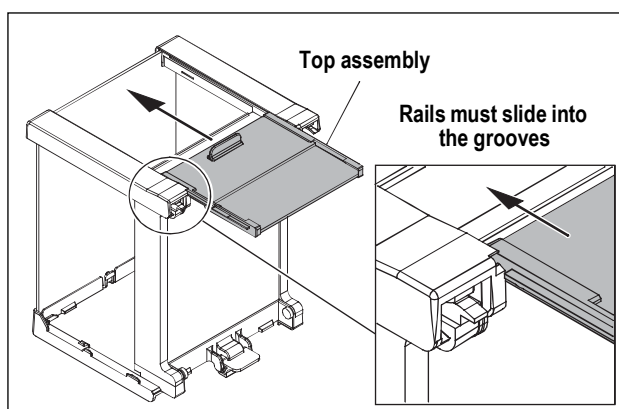

Figure 2-12. Install Top Panel
9. Slide the top door assembly, with the handle towards the front, into the upper brackets as shown in Figure 2-12. Ensure the side rails of the top assembly are in the grooves in the top brackets.